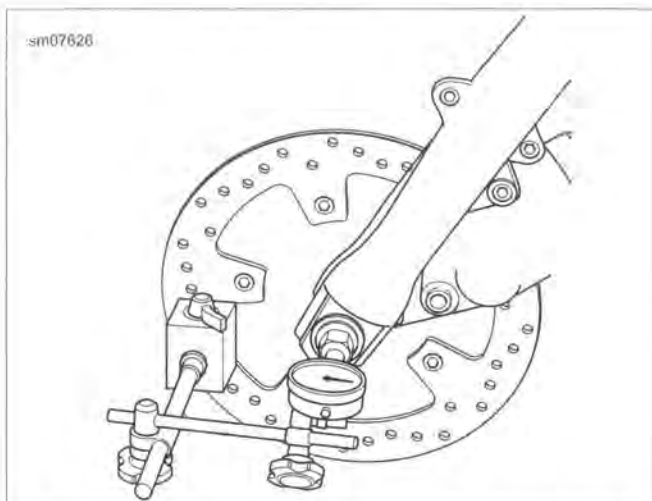

Figure 2-18. Wheel Bearing Inspection (Front Wheel Shown)
- a. See Figure 2-18. Mount a magnetic base dial indicator to the brake disc. Set the indicator contact point on the end of the axle.